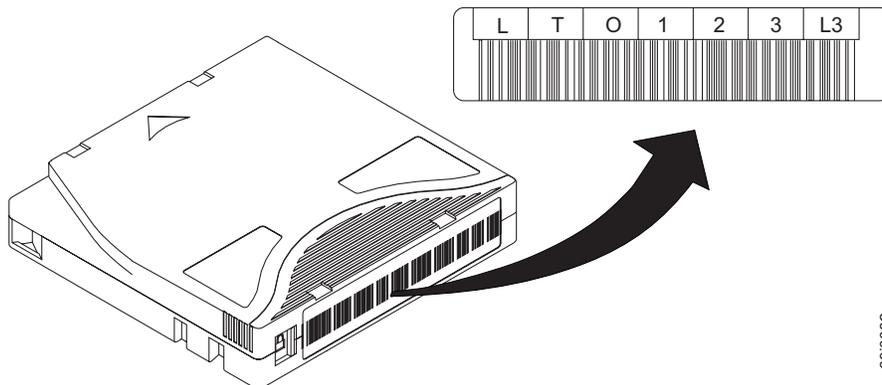

Figure 9. Sample bar code label on the LTO Ultrium 3 Tape Cartridge. The volume serial number (LTO123) and bar code are printed on the label.
When read by a library's bar code reader, the bar code identifies the cartridge's VOLSER to the library. The bar code also tells the library whether the cartridge is a data cartridge or cleaning cartridge. In addition, the bar code includes the two-character media-type identifier Lx, where x equals 1, 2, or 3. L identifies the cartridge as an LTO cartridge. 1 indicates that the cartridge is the first generation of its type; 2 indicates that the cartridge is the second generation of its type; 3 indicates that the cartridge is the third generation of its type. Figure 9 shows a sample bar code label for the LTO Ultrium Tape Cartridge.
- Position the label within the recessed label area (**5** in Figure 9 on page 33).